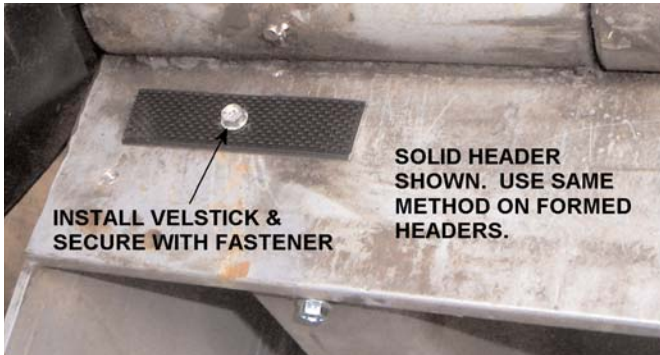

FIGURE 9
1. Cut (5), 4"-6" pieces of the Velstick with pressure sensitive adhesive from the piece sent with the units.
2. Attach the pieces to the header. (Note: If the header has gussets, attach Velstick to gussets.) The location of the Velstick on the header is as such when the top curtain is attached, the top edge of the curtain is at about the same height of hinge pin or bottom of lip spool, covering most of the header open areas. (See Figures 9 - 14 for the different leveler models.)
3. (2) of the pieces are located on the outside of the